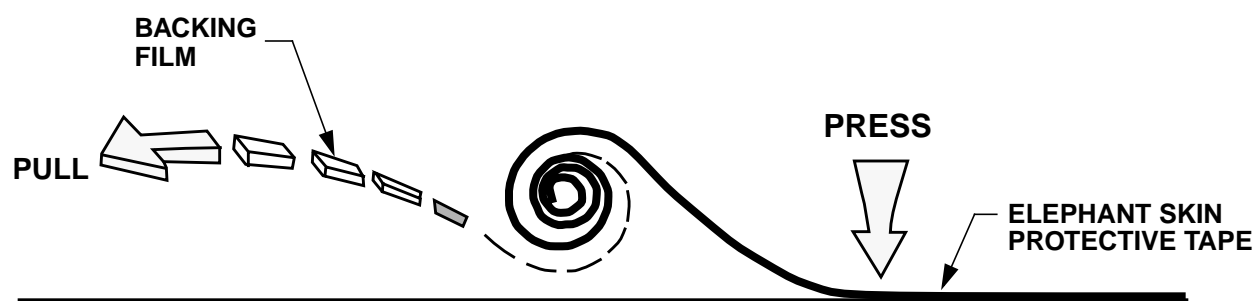

FIGURE 2 - APPLICATION OF ELEPHANT SKIN PROTECTIVE TAPE
5.3 Application of Elephant Skin Protective Tape (see Figure 2)